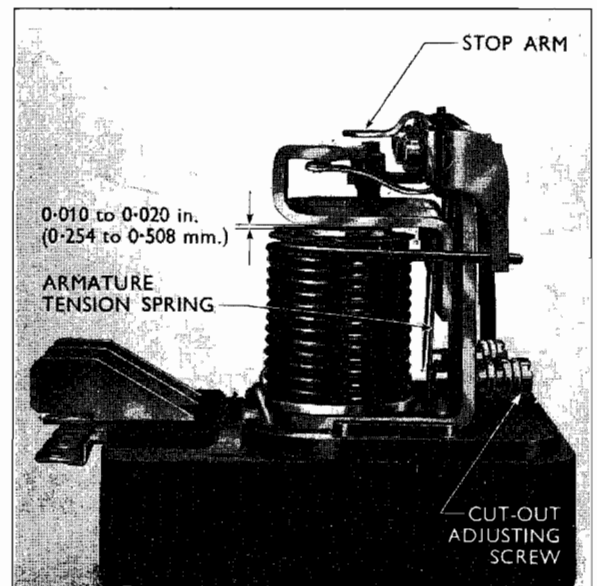

Fig. 3
Examine the cut-out points and, if necessary, clean with a suitable cleaning fluid or carborundum paper. Ensure that the points are meeting correctly (see Figs. 3 and 4).
(3) Press the armature down **squarely** against the copper-coated core face and, holding it there, retighten the armature securing screws.
(4) Still holding the armature down against the core, bend the armature stop arm so that a gap of 0.025 to 0.040 in. (0.635 to 1.016 mm.) exists between it and the armature tongue (see Fig. 3).